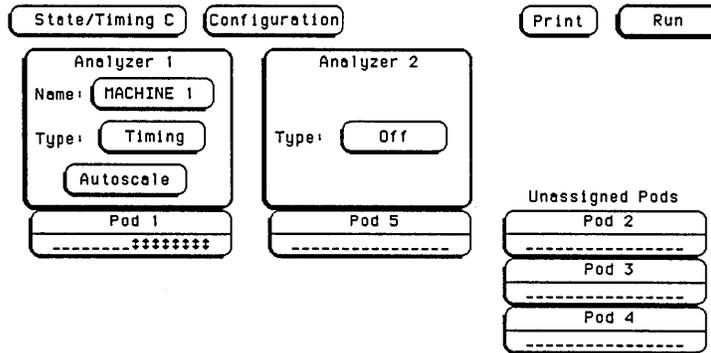

Figure 3-34. Configuration Screen
3. Set up the Configuration screen for assigning of pod under test to Analyzer 1 as in figure 3-34. Refer to steps a through c if unfamiliar with menus.